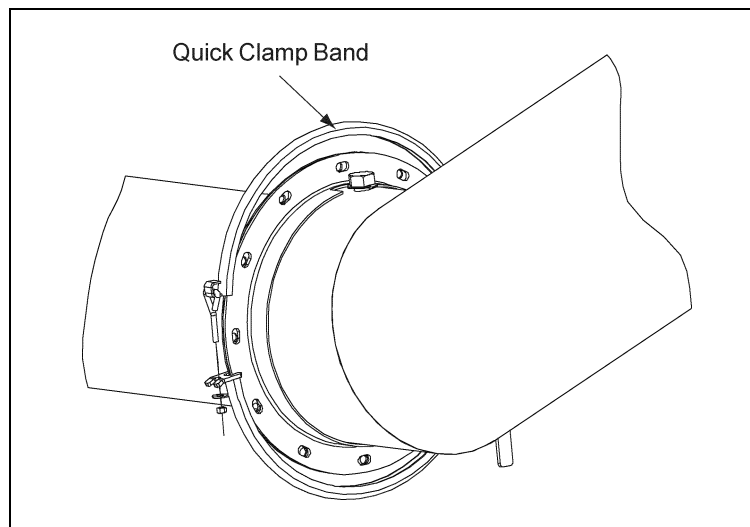

Figure 4E
- B. Once the 25° Unloader assembly is positioned with its angle ring mated against the Adapter Plate, use the Quick Clamp Band to secure assembly to bin. (See Figure 4E)